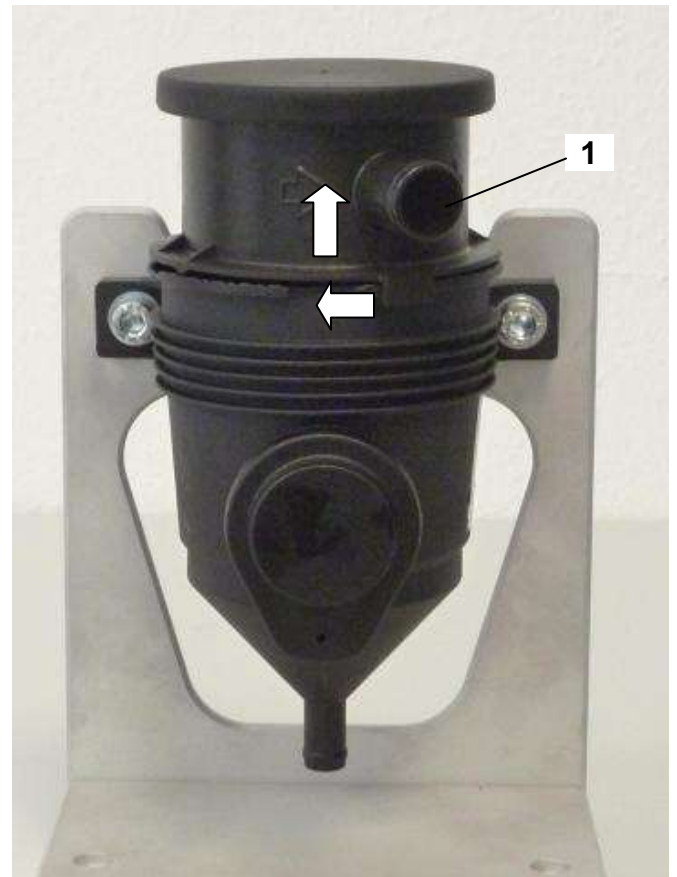

Fig. 12 Detaching lid of ProVent 150
- Detach the hose on the outlet fitting (1) if necessary.
- Turn the lid up to the fold recess ("Service" position, Fig. 12) and remove the lid upward with the element (see Fig. 12).